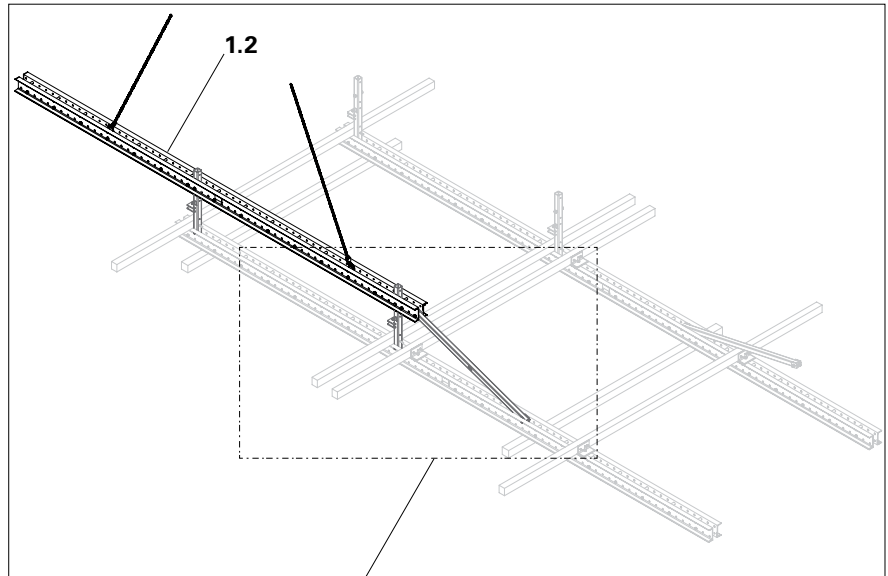

Fig. C1.08
1. Position Climbing Rail RCS (1.2) as Enclosure Post, with Spacer  $\varnothing$  26 mm below, on the Crossbar (10) from above.
2. Secure Enclosure Post on Crossbar using bolts M24 x 130 (94) and nuts M24 (95). (Fig. C1.08)
4. Fold down bottom Diagonal Strut (12) and secure with bolt (94) and nut (95) to the Enclosure Post (1.2). (Fig. C1.08 + C1.08a)